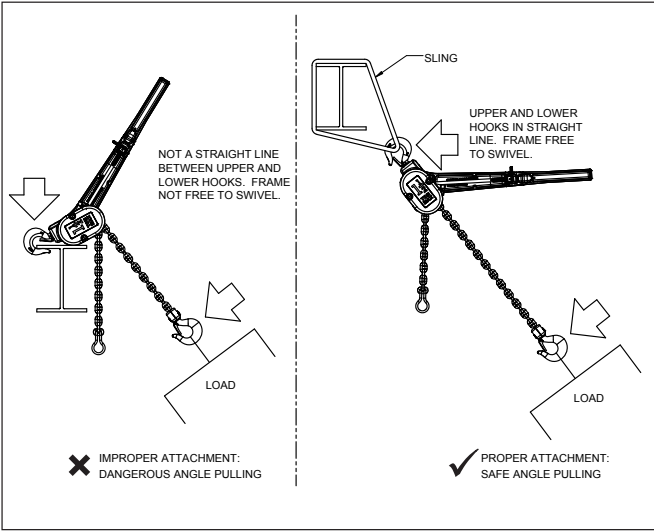

Figure 8 - Angle Pulling
Rig the unit in a straight line hook to hook manner and keep frame free to swivel - see Fig. 8.
Attaching Load - As discussed in installation section, attach load so that upper and lower hooks are in a straight line with the frame free to swivel on upper hook. If proposed use prevents straight line attachment, use an Anchor Sling (see page 5) or chain sling to obtain a straight line pull. Refer to Fig. 8.
13. Do not operate the hoist unless it is rigged to pull in a straight line from hook to hook, and the frame is free to swivel on the upper hook. Refer to Fig. 8.